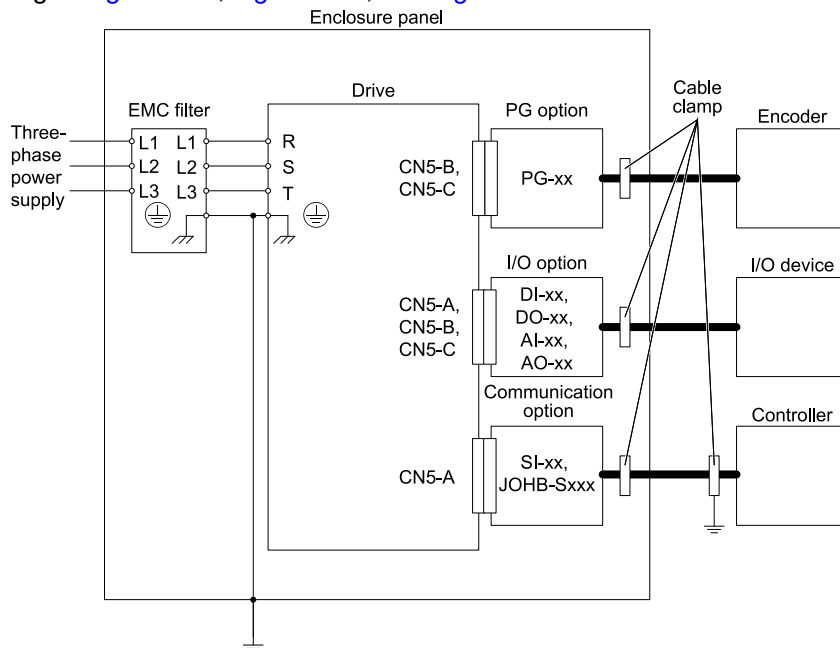
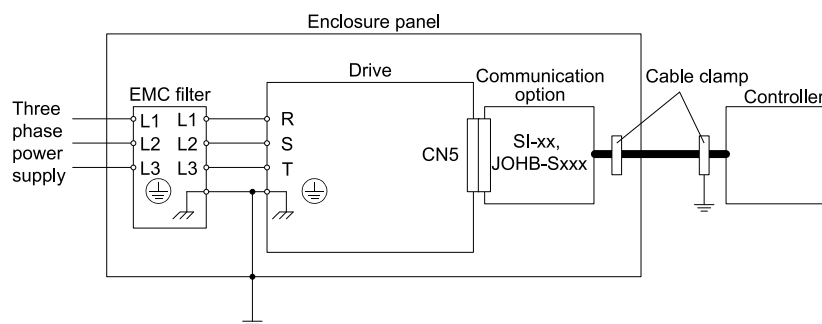

Figure 10.2 Option Installation for CE Compliance: 1000-Series, GA700, GA800, CR700
Figure 10.3 Option Installation for CE Compliance: GA500, HV600
2. Keep wiring as short as possible and ground the largest possible surface area of the shield to the metal panel according to Figure 10.2, Figure 10.3, and Figure 10.4.